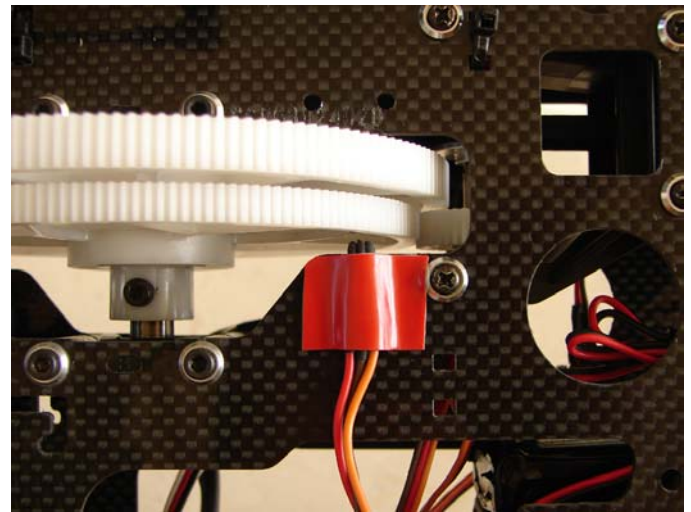

Figure 5. Completed mounting of sensor with double-sided tape
3. To finish, cut a larger piece of double sided tape and stick over sensor as shown below (figure 5):